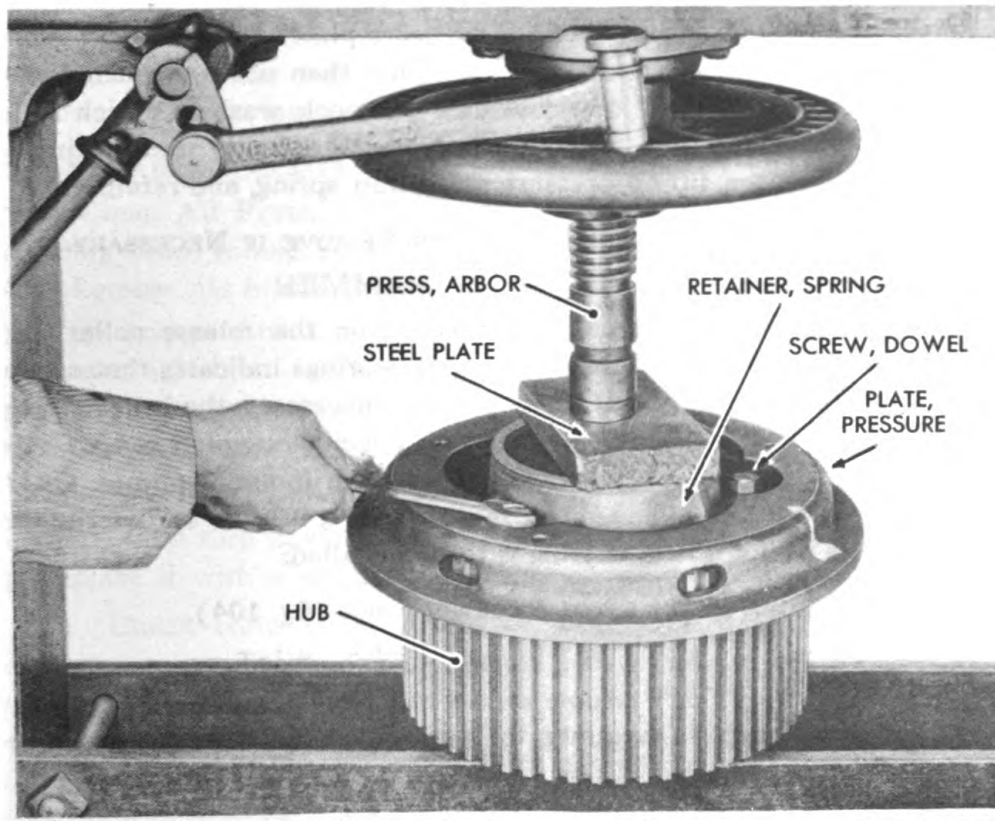

Figure 103 – Compressing Steering Clutch Spring and Removal of Retainer
(12) COMPRESS STEERING CLUTCH SPRING (fig. 103).**BAR, steel****WRENCH, open-end, 3/4-in.****PRESS, arbor**
(1) INSTALL STEERING CLUTCH SPRING (fig. 103).